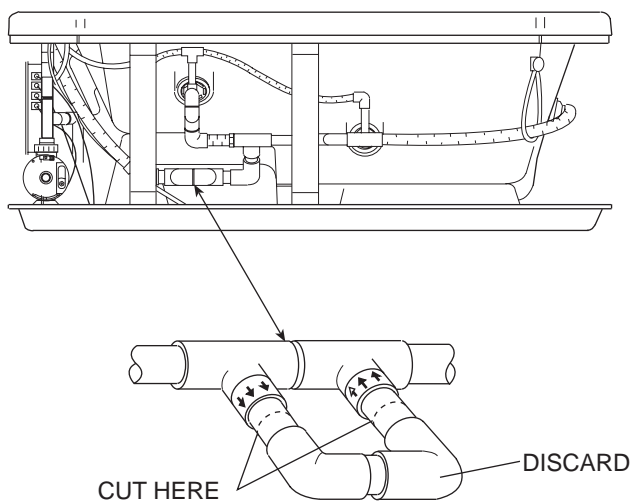
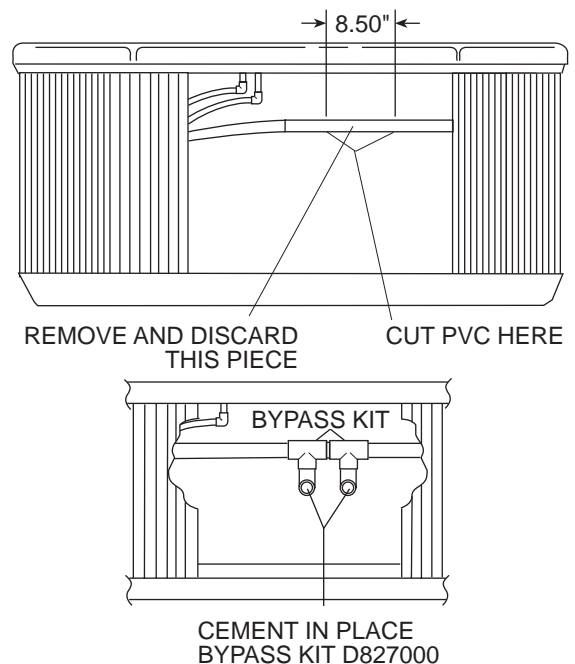

FIGURE 1. TWO PUMP SYSTEM
FIGURE 2. ONE PUMP SYSTEM.
3. Open the spa skirt equipment door. Temporarily remove the skirt panel(s) as required to cut the PVC pipe to make connection into the discharge plumbing of the 2 pump system (Figure 1) or 1 pump system (Figure 2).
4. On the two pump system, locate the U-shaped heater loop in the filter pump discharge plumbing and cut where indicated. Note the direction of water flow indicated by the labels on the heater loop. Refer to Figure 1.
5. On the one pump system, look for a straight run of rigid PVC in the pump discharge line nearest to the pump. Cut 8 1/2" out of the pipe. Note the direction of water flow as indicated by the labels on the pump discharge line. Install Bypass Kit D827000 (available from your spa dealer) in this opening. Refer to Figure 2.